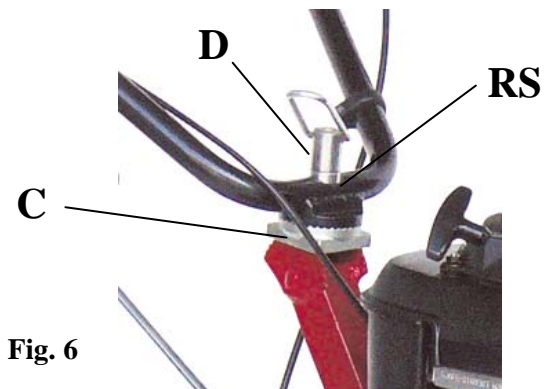

Fig. 6
- the adjustment toothed support “**C**” **fig. 6**,
- washer “**RS**” **fig. 6**,
- and finally the fixing nut “**D**” **fig. 6**.
Handlebar is adjustable in height and on the side ways with the possibility to block it in the wished position : do this by the nut “**D**” **fig. 6**.,After blocking the handlebars, check that teeth of the blocking device are well connected.